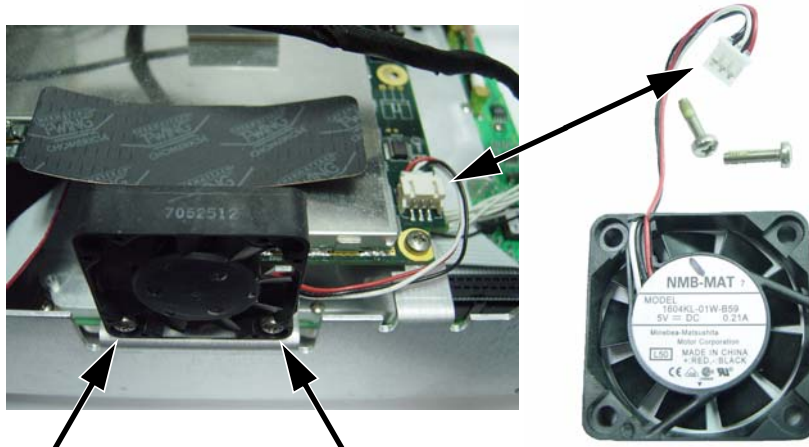

Figure 5-14. Fan Assembly, Mounted and Removed
1. With the chassis upright on a static protected work surface, disconnect the fan power plug from J1002 of the Main PCB (motherboard). Refer to the arrow in Figure 5-14.